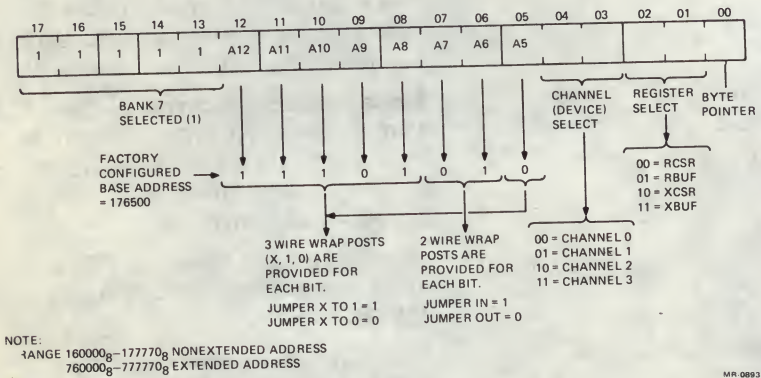

Figure 4 Channel 0 RCSR Address Format
Wire-wrap jumpers are configured to establish the base address (BA) for the module. This base address is the channel 0 RCSR address. The device address format is shown in Figure 4. The remaining device addresses follow through 16 (total) contiguous word addresses; however, it is possible to independently dedicate the last four addresses (channel 3) to a console device. When configured for console device operation, the channel's device register addresses will be 177560-